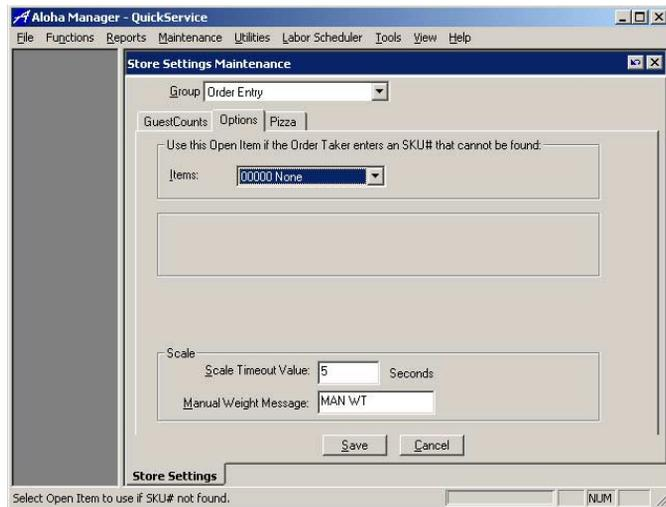

Figure 3-6 Store Settings - Options Subtab
4. Select the **Options** subtab. The Options subtab appears, as shown in Figure 3-6: